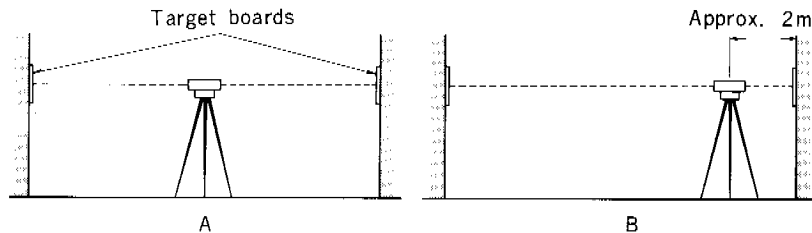

Fig. 12
- 1) Two charts having the same scale are used for leveling. The instrument is set at the center between two walls separated from each other from 50 to 100m. Make collimation to both walls alternatively in a way as shown in item 4, for sighting and item 5 for reading the staff to fix the charts on the walls by determining such positions that the height of both charts will be the same. (see fig. 12-A)
- 2) Move the instrument to a position about 2m away from one chart and level it. (See fig. 12-B)